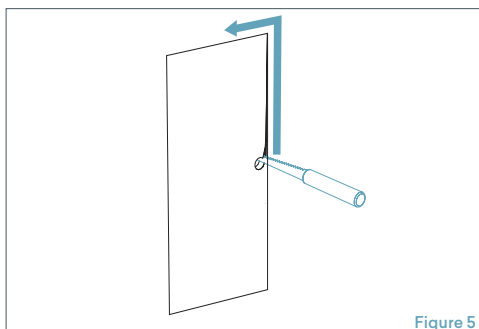

Figure 5
- Use a fine plasterboard (Gyprock) saw to cut around the traced line. **(Figure 5)**